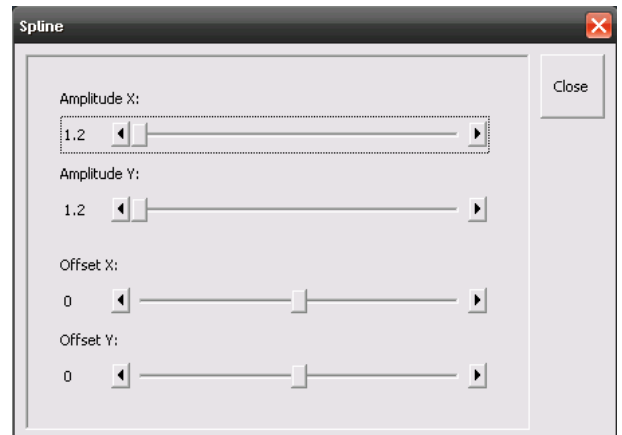

Fig. 5-134 Spline window
- The **Spline** window appears on the screen (see Fig. 5-134).